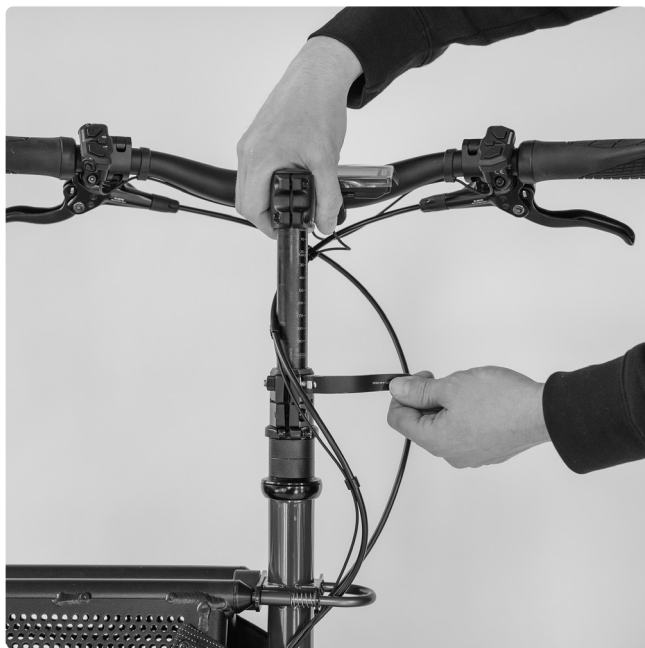

FIG. 28
In addition to height adjustment, the stem adapter also makes it possible to turn the handlebar sideways by 90° and to make the muli Muskel even more compact for parking – for example in a hallway (Fig. 28).
- 2 Pull the handlebar upwards up to the stop and turn it sideways in this highest position. (Fig. 28).
- 2 Pull the handlebar upwards up to the stop and turn it off again (Fig. 28).